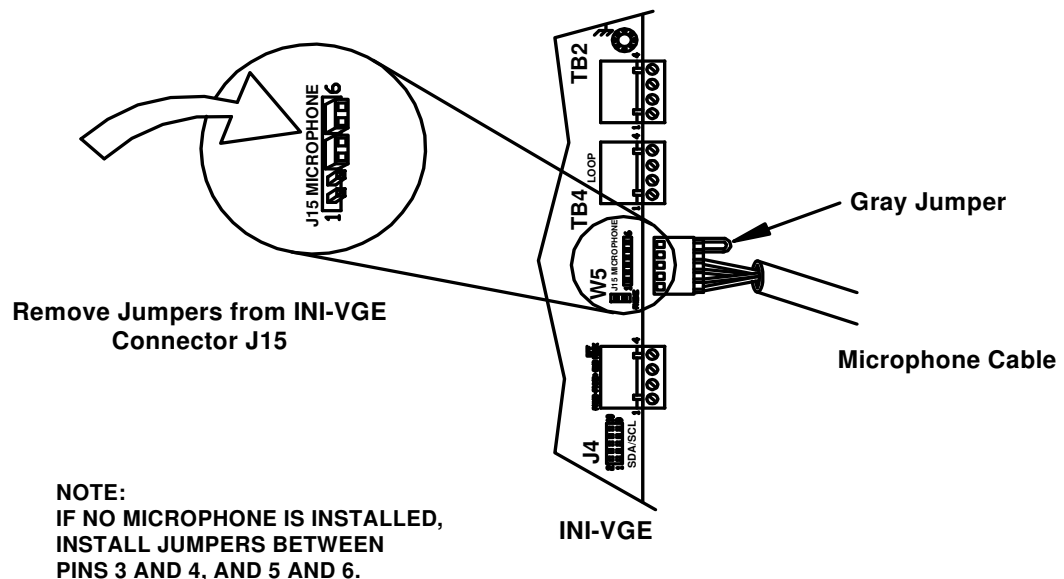

Figure 2.6.8.1 Voice Paging Microphone Assembly
**NOTE:** Be sure to position the connector so that the gray jumper spans the top two pins on the INI-VGE J15 (Pins 6 and 5 counting from the top down). See Figure 2.6.8.1 for details.